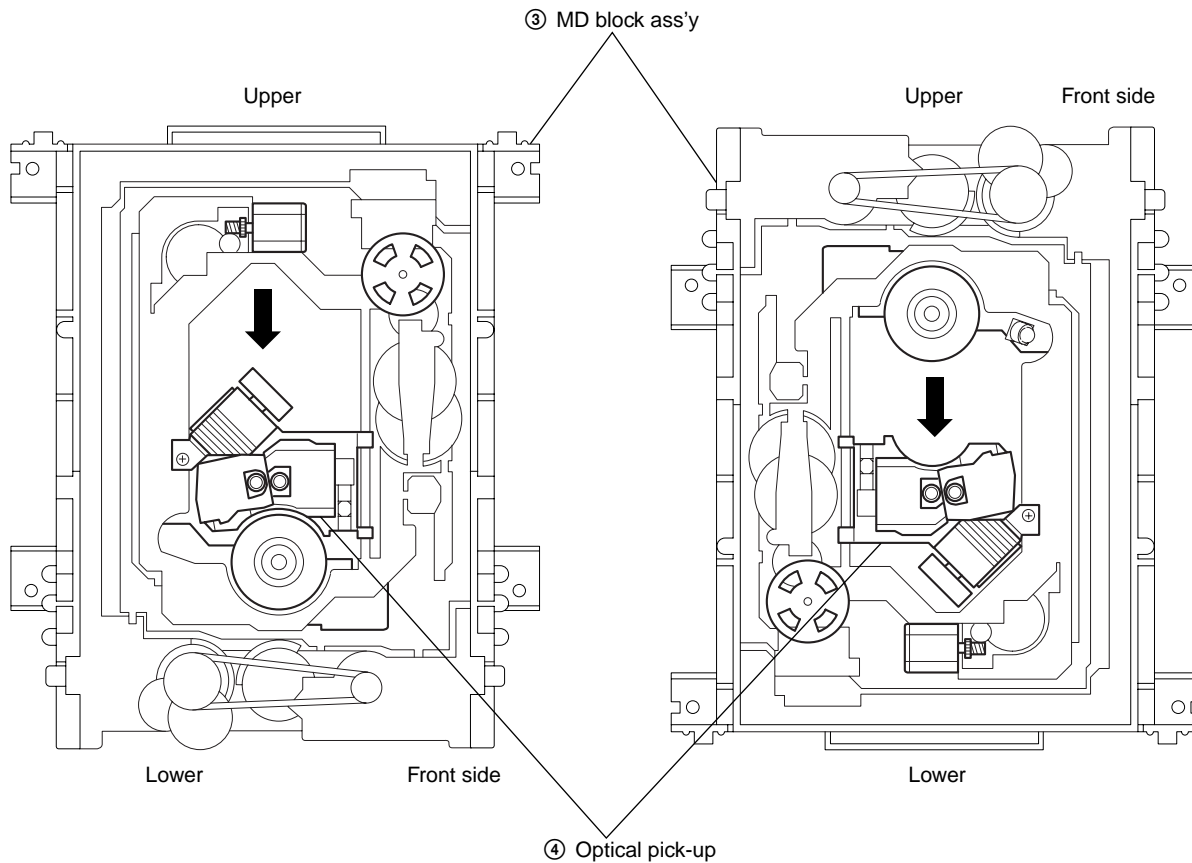

Fig. 5
- 3) Raising the MD block ass'y ③ 90° with the side down, confirm that the optical pick-up ④ falls by self weight. (See Fig. 5)
- 4) Further, with the front side of MD block ass'y ③ up, confirm that the optical pick-up falls by self weight.